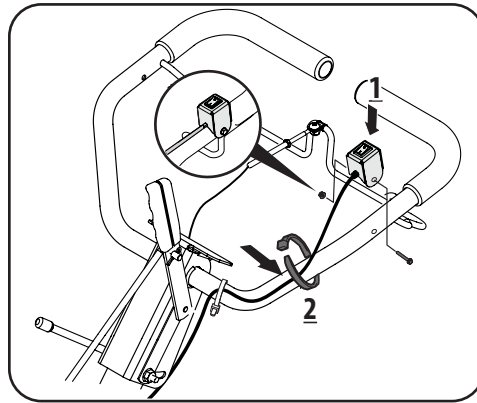

Figure 2-6
- Mount the emergency stop control ON/OFF switch onto the left side of the handlebar with the #10-32 : 1.50 hex bolt and 10-32 flange lock nut. See 1 in Figure 2-6.
- Secure the wire near the top of the handlebar with a cable tie on the left handlebar. See 2 in Figure 2-6.